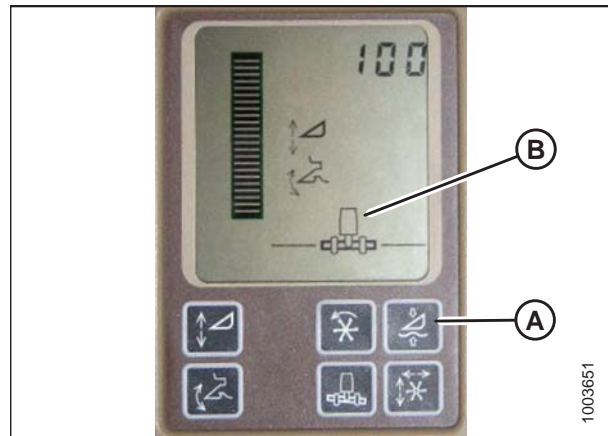

Figure 3.266: John Deere Combine Display
Do **NOT** use active header float function (A) in combination with MacDon auto header height control (AHHC)—the two systems will counteract one another. The header symbol (B) on display should **NOT** have a wavy line under it and should appear exactly as shown on Active Header Control Display in Figure 3.266, page 170.